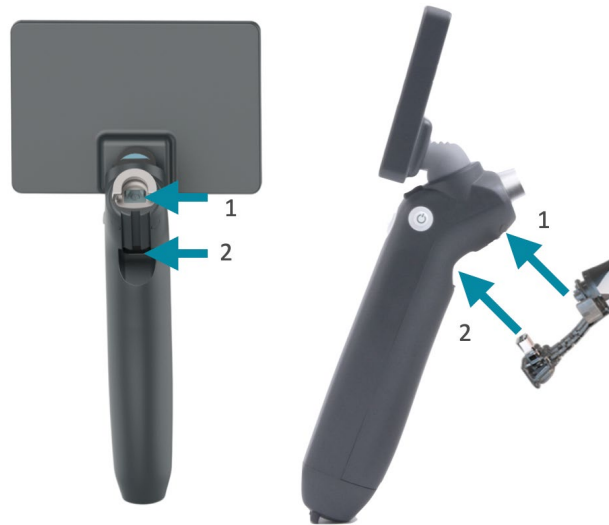

Figure 2: Cannula Attachment
- 5.2.4. Once cannula is connected, insert the male USB connector (2) of the disposable cannula into the USB female connector on the handle. See Figure 2.
- 5.3.3. Attach the cannula to the handle. Refer to Section 5.2 Figure 2.